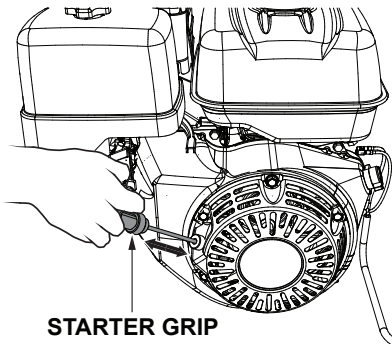

Figure 15. Starter Grip
- Pull the **starter grip** (Figure 15) lightly until you feel resistance, then pull briskly. Return the starter grip gently.